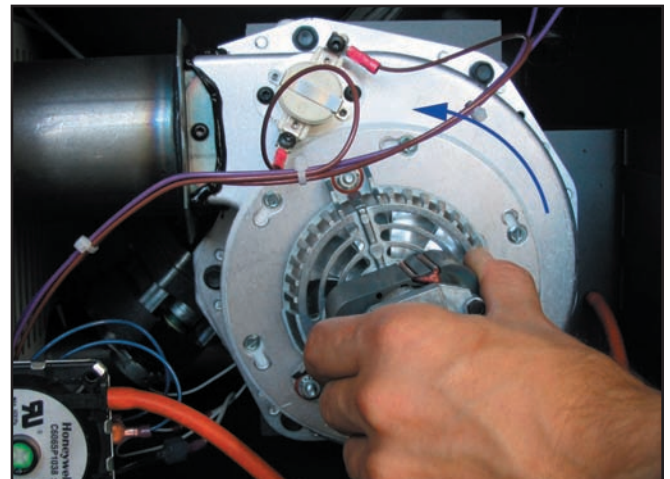

Figure 33: Removing The Exhaust Blower Motor.
2. Turn the motor counter-clockwise (refer to Figure 33).